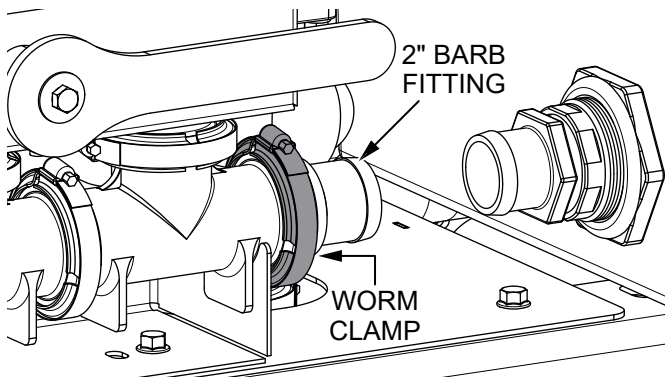

Figure 8. Remove Barb Fitting
8. Loosen the **worm clamp** (Figure 8) securing the **2" barb fitting** to the manifold assembly. Remove and discard the fitting and the clamp.